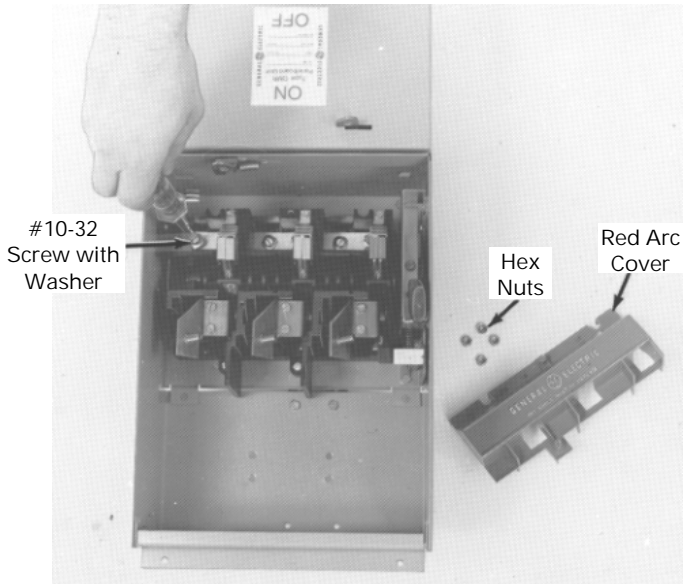

Figure 4. Installing the expansion plate into the enclosure.
4. **Install the kit.** Remove and save the hex nuts from the studs and the red arc cover on the expansion switch, as shown in Figure 4. Install the expansion plate into the enclosure, positioning the switch base over the connecting straps. Install #10-32 screws with washers into the connecting straps inside the switch base. Tighten the screws to 27–32 in-lb.